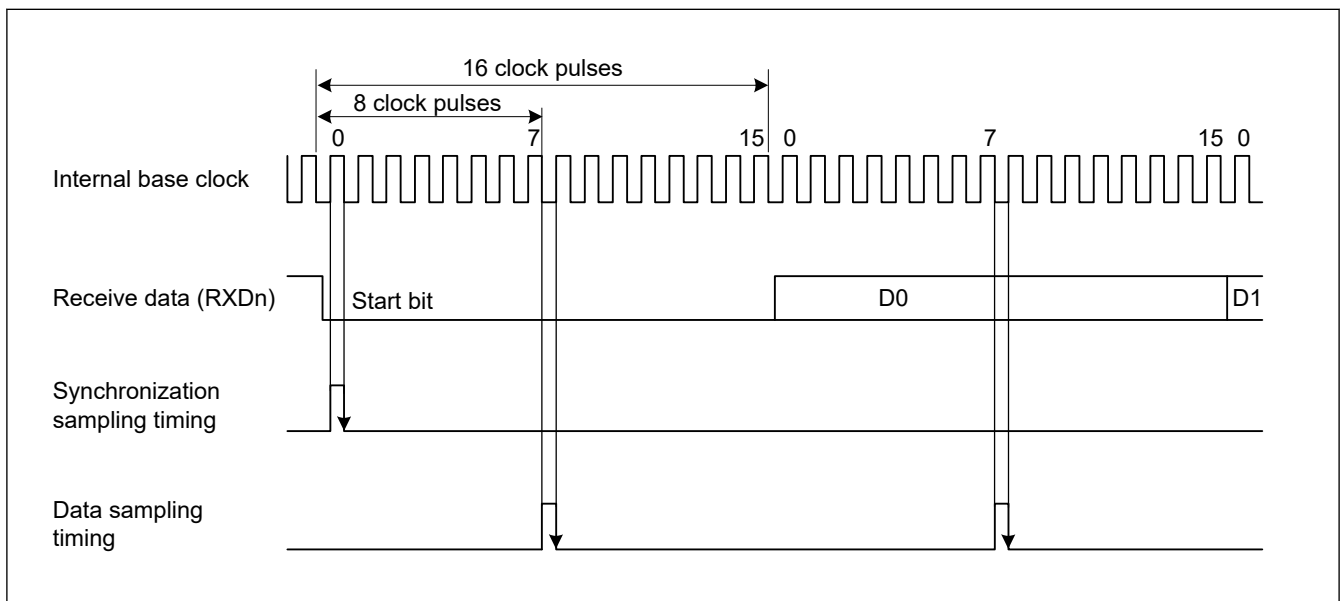

Figure 26.3 Receive data sampling timing in asynchronous mode
Because receive data is sampled on the rising edge of the 8th pulse^{*1} of the base clock, data is latched at the middle of each bit, as shown in Figure 26.3. The reception margin in asynchronous mode is determined by the following formula (1):